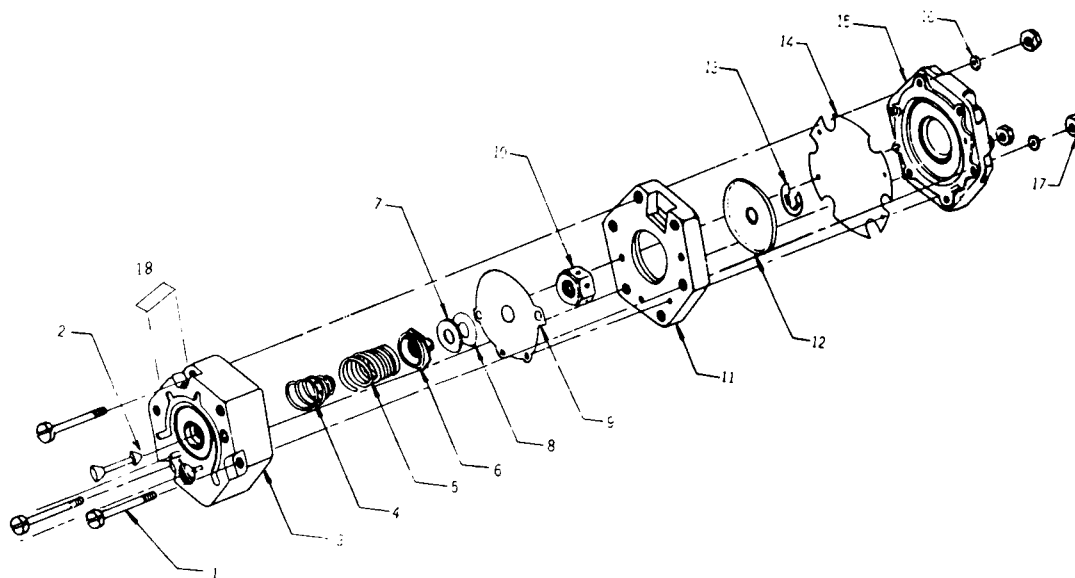

Figure 1. Pilot relay assembly.
- (2) To service the pilot relay.
- (a) Remove the three assembly screws (1) washers (16) and nuts (17). (See Fig. 1 exploded view of pilot relay)
- (b) Parts (3) to (15) will separate in order. It is not necessary to separate parts (2) to (4) unless they are to be replaced.
- (c) Clean metal parts with approved solvent such as petroleum naphtha or Clorothene.* Keep the solvent away from the diaphragms. Depress the valve stem (2) against the conical spring (4) to allow the solvent to penetrate through the seat.
- (d) Examine the inner exhaust ring (10). If dirty, clean it with a pipe cleaner dipped in solvent.
- (g) Replace diaphragms (14) and (9) if worn or damaged.
- (h) Reassemble the pilot relay by rejoining all parts in order with assembly screws (1), washers (16) and nuts (17). Tighten the screws evenly.
- (3) To replace pilot relay: